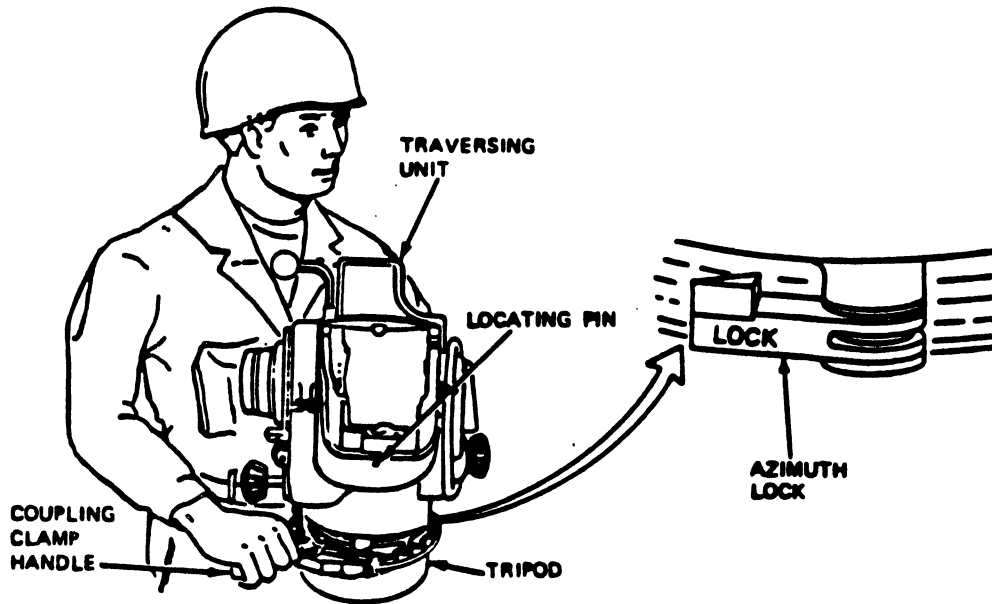

Fig 2-7. Installing the traversing unit.
Step 2. Center the traversing unit over the tripod with the azimuth lock positioned opposite the direction of fire and lower it onto the tripod (fig 2-7).
Step 3. Push the coupling clamp locking handle in to fasten the traversing unit to the tripod. Turn the traversing unit from side to side until it locks in place (fig 2-7).